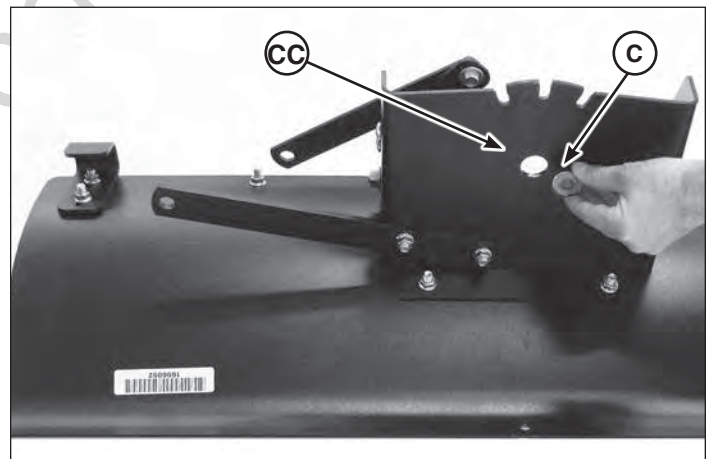

Figure 8
1. Put the spacer (**C**, Figure 8) into the hole in the blade assembly (**CC**).